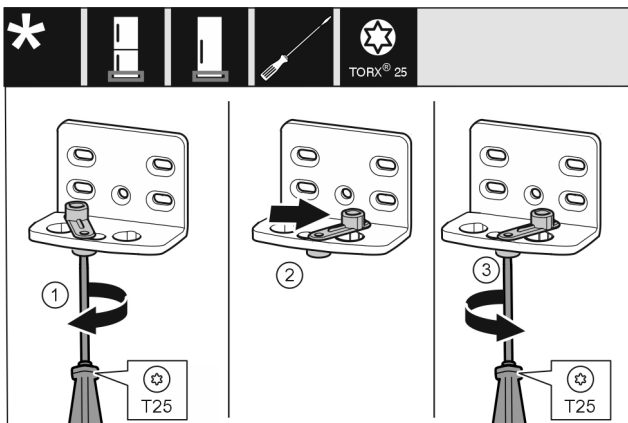

Fig. 16
- ▶ Loosen the screw Fig. 16 (1) with the screwdriver.
- ▶ Lift the door closing mechanism Fig. 16 (2) and turn it 90° to the right into the hole.
- ▶ Tighten the screw Fig. 16 (3) with the screwdriver.